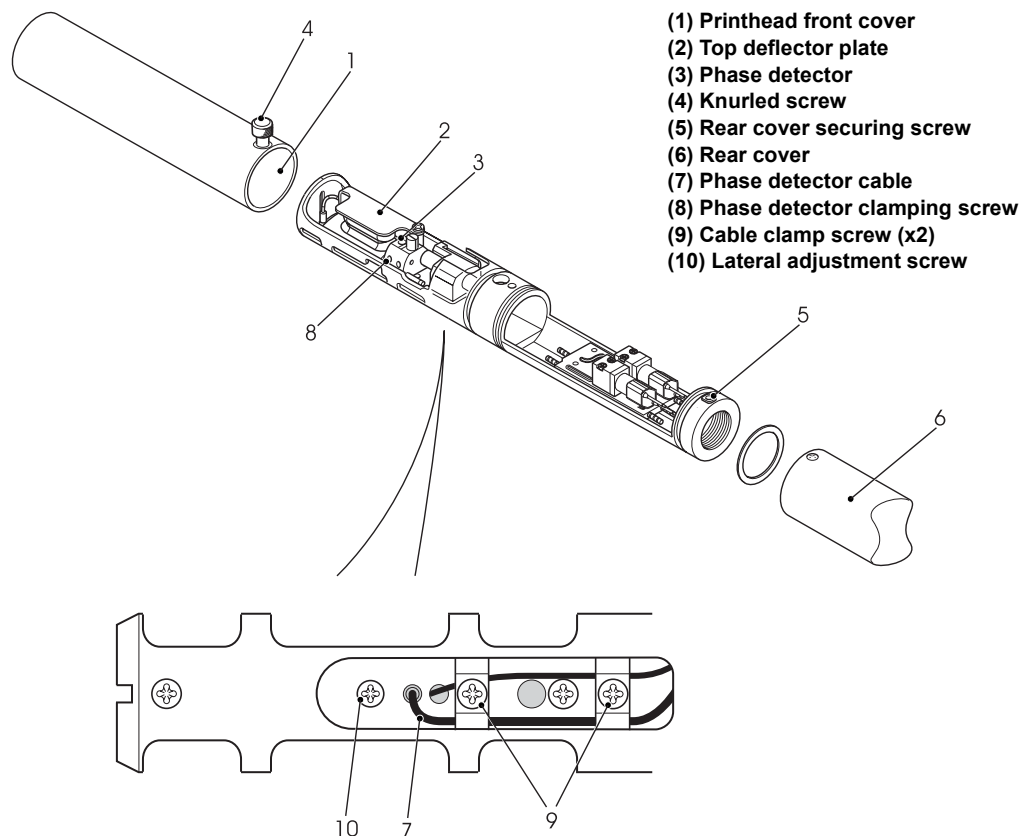

Figure 8-22. Phase Detector Removal and Installation
- 1 Slacken the knurled screw (Item 4 in Figure 8-22) and slide the front cover off the printhead.
- 2 Remove and retain the two rear cover securing screws (5) and slide the rear cover (6) back until it is clear of the printhead.
- 4 Slacken the phase detector clamping screw (8) and slide out the detector. If necessary, slacken the lateral adjustment screw (10).
- 5 Slacken the rear cable clamp screws (9) to release the phase detector cable.